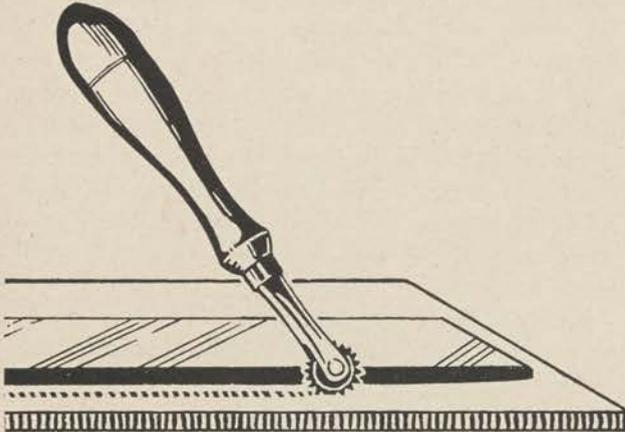

Figure 28.
c. The easiest way of marking the leather for punching is to run a spacing wheel over the face of the leather, guiding it with a ruler on straight lines (fig. 28). If such a wheel is not available, lay a